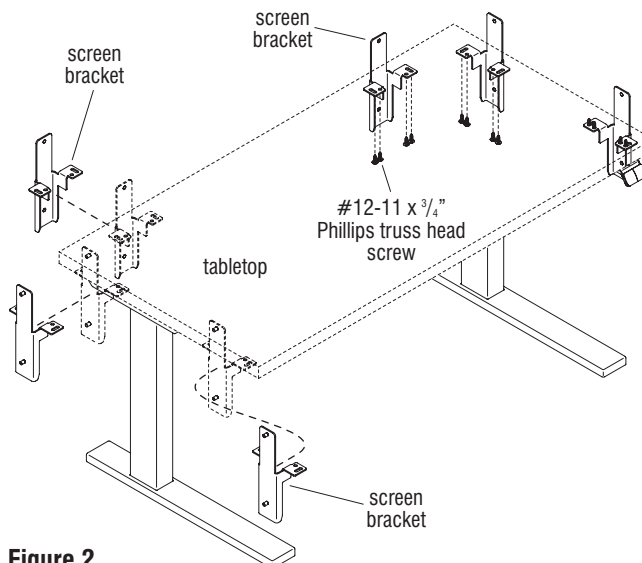

Figure 2
3. Carefully turn the table to the upright position (Figure 2).
4. Locate a screen bracket and position the mounting tabs to align with the pre-drilled holes on the underside of the tabletop. Secure the bracket to the underside of the tabletop using four #12-11 x 3/4" Phillips truss head screws. Screens installed to tables 60" or greater have three screen brackets per assembly. Repeat this process to secure the remaining brackets to the underside of the table (Figure 2 & Detail C).